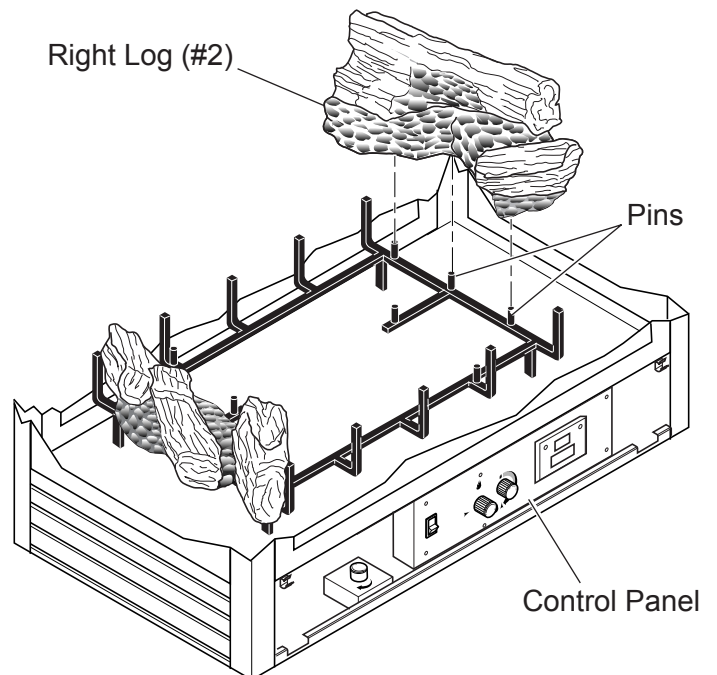

Figure 45 - Installing Right Log (#2)
4. Place right log (#2) on right end of grate. Line up three (3) pin holes in bottom of log with three (3) pins on grate. *See Figure 45.*